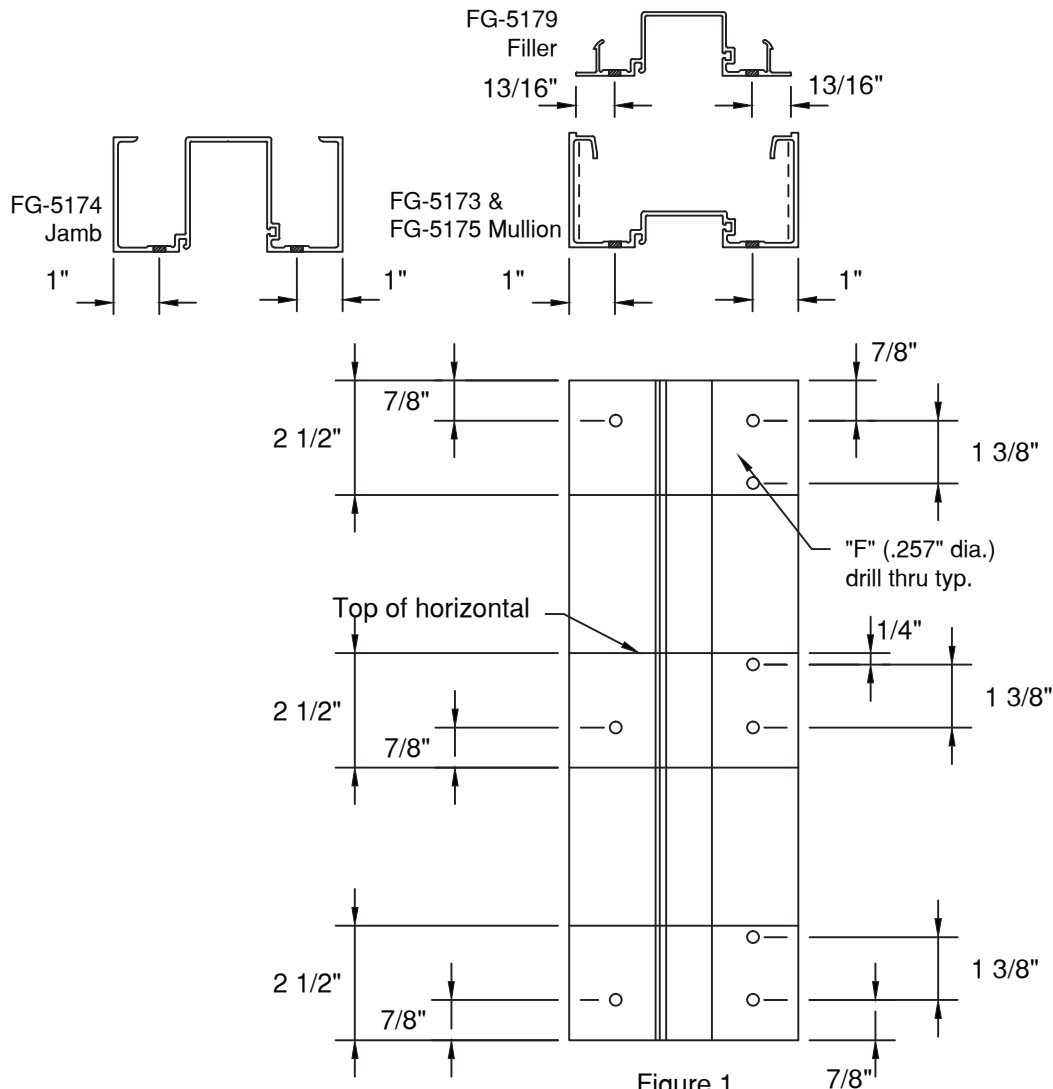

Figure 1
NOTE : refer to 1.3 and Figure 1 for hole pattern at head,sill and horizontals.
- 2.2.3 Attach horizontals to verticals using (3)FS-8 (#14 x 1" sts spline screws) Trim excess sealant tape at joints with razor knife. DO NOT PULL TAPE TO TRIM. **See Figure 1 Page 6** for hole prep locations.